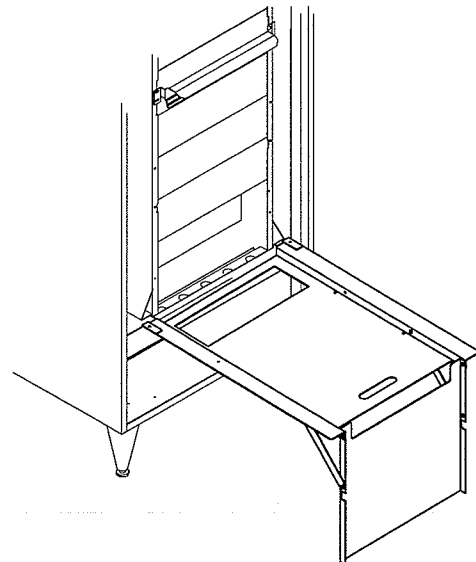

Figure 12. Stack Rack
8. Remove and retain the brace bolts from the center of the rack, see Figure 12.
11. Hook the stack rack to the cabinet using the slots in the stack support. Verify the stability of the rack. See Figure 12.